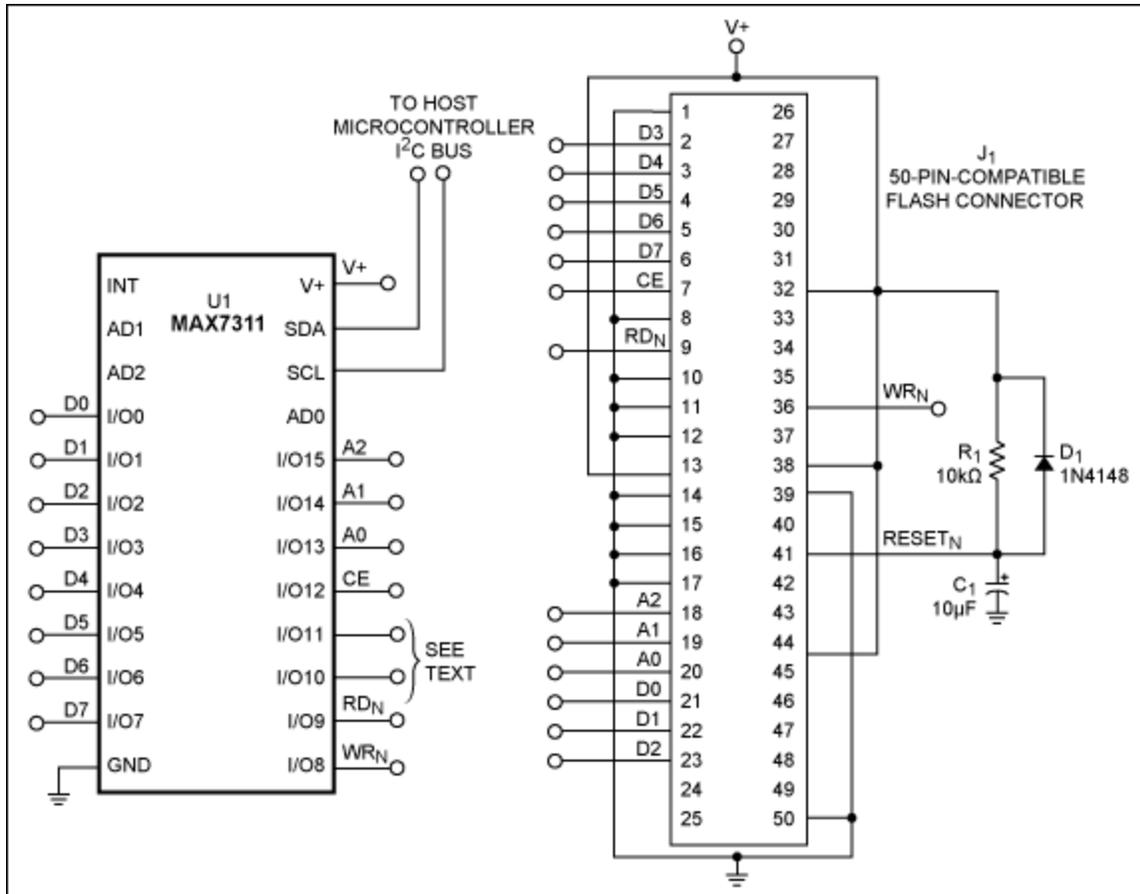

Figure 1. This circuit employs a 16-bit I/O extender (the MAX7311) to connect a compact flash connector to the I²C bus of a microcontroller.
Data logging usually requires considerable memory for storing the measured data, especially when the number of monitored channels is large. As a further complication, the limited internal data memory (RAM and EEPROM) of small microcontrollers and their lack of address and data ports often precludes the addition of external memory. The **Figure 1** circuit uses a 16-bit I²C I/O extender (U1, the MAX7311) to connect a compact-flash (CF) card to the I²C interface of a microcontroller. The I²C interface is a logical choice, because many circuits already use it for connecting external ADCs, DACs, real-time clocks, and other components.